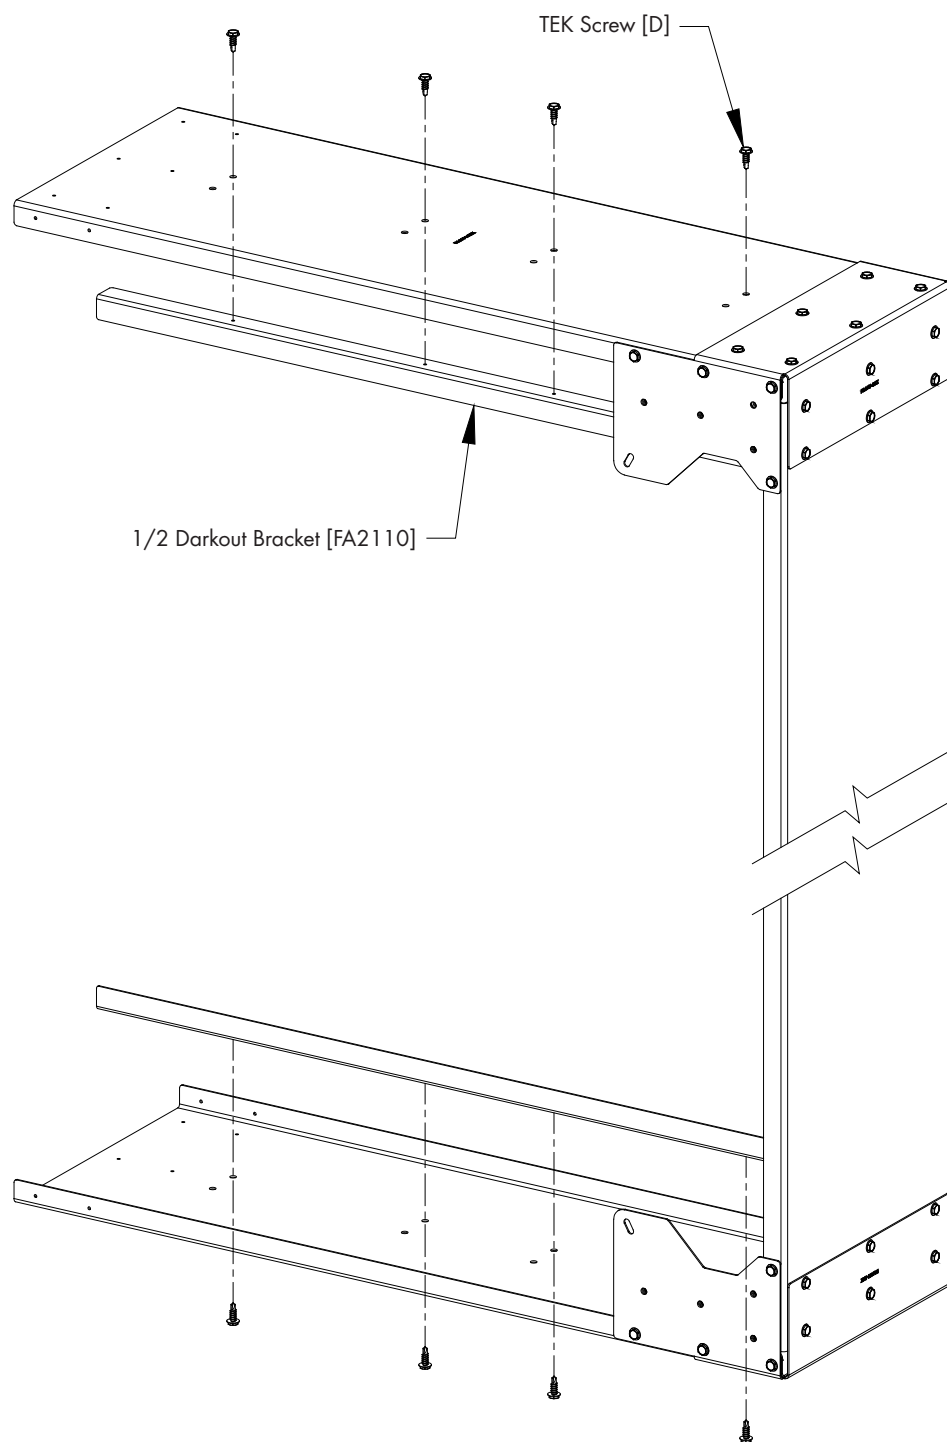

Figure 16
If you will be installing Full Depth Light Trap into the door then proceed to Step 17. If installing Half Depth Light Trap, proceed with this step. Attach a 36" L. 1/2 Darkout Bracket [FA2110] to the Top and Bottom Door Panels using (4) TEK Screws [D] per bracket. See Figure 16. The flat edge of the bracket should be facing the inlet side of the door.